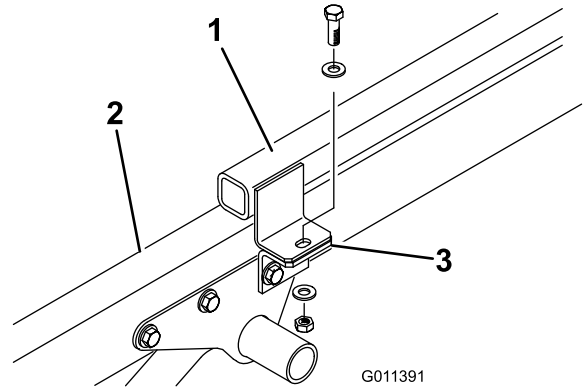

Figure 6
3. Remove the cap screw, 2 flat washers, and locknut securing each attachment bracket to hitch frame tabs (Figure 6).